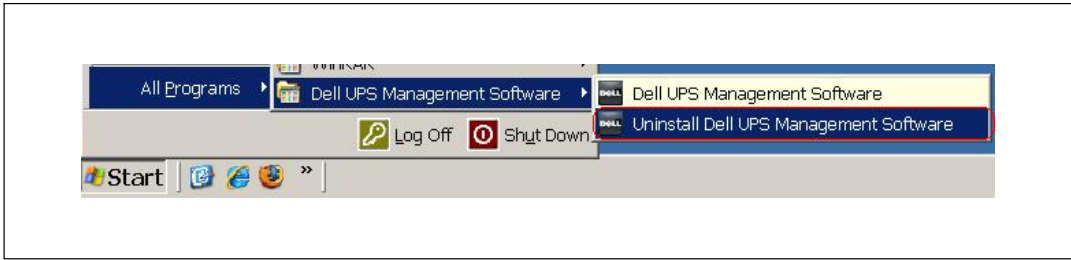

Figure 23. Uninstall Dell UPS Management Software
- Select Start menu > All Programs > Dell UPS Management Software > Uninstall Dell UPS Management Software (see Figure 23).